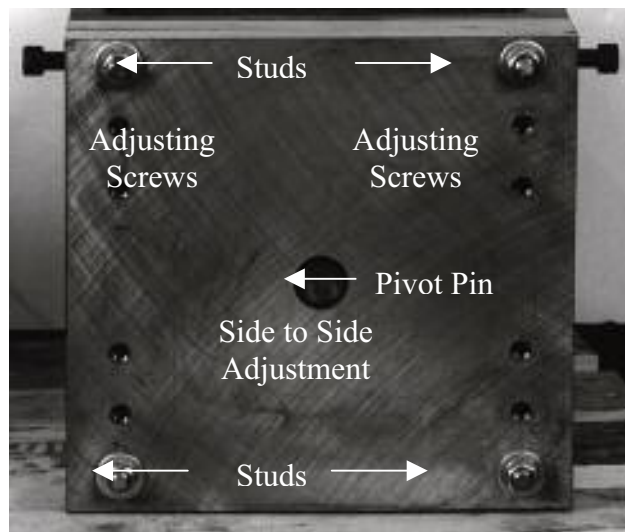

Figure 31
3. **SIDE-TO-SIDE HEAD TILT ADJUSTMENT:** The grinding head is also adjustable for side-to-side tilt. This adjustment will affect the flatness and/or parallelism of the ground work piece. The double configuration used between the grinder motor and the cast iron motor flange enables the motor to be mounted on the front plate, which pivots on a 1" dia. pin to allow side-to-side adjustment (Figure 31). Adjustment may be made as follows: